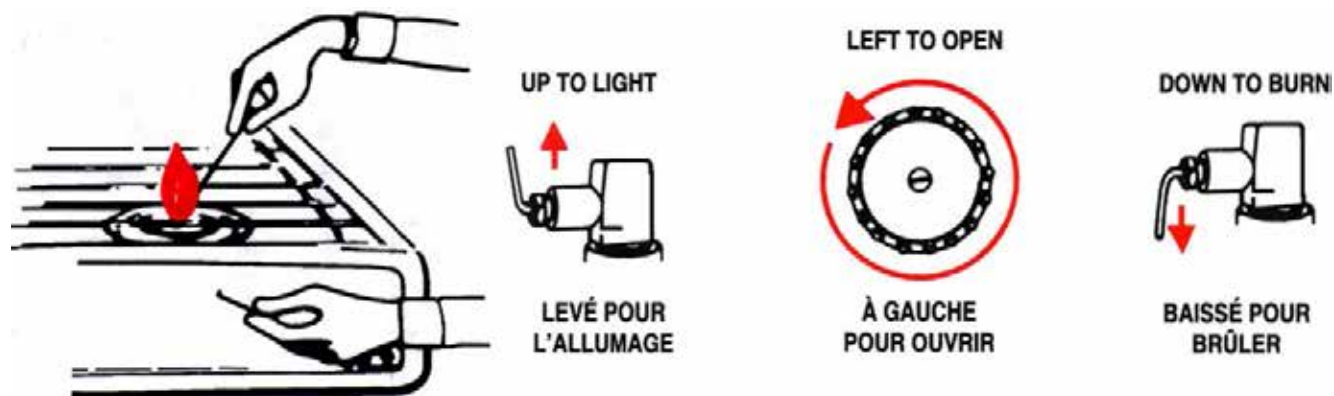

Figure 10 Lighting the Master Burner
3. Hold a lit match near the master burner (as per Figure 10).
4. Turn the instant light lever to the UP TO LIGHT position (as per Figure 10).